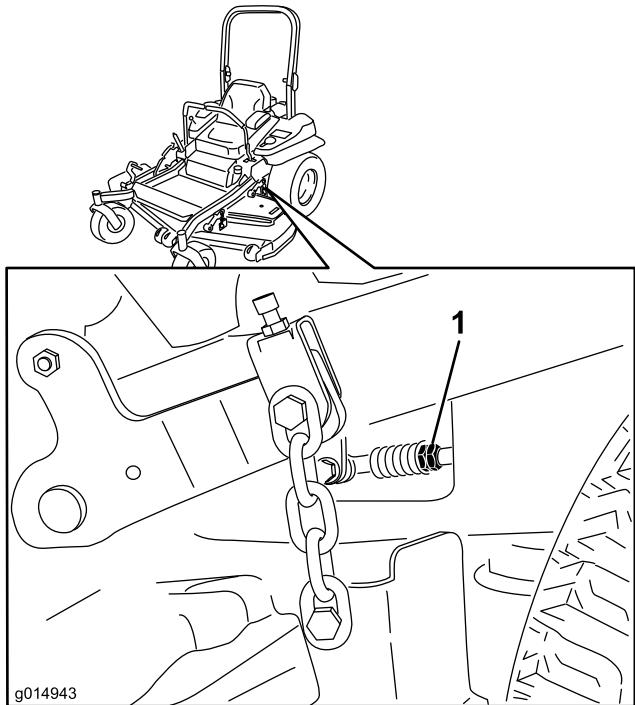

Figure 81
- Bring the motion control levers into the neutral position. Adjust pump control rod lengths by rotating the double nuts on the rod in the appropriate direction until the wheels slightly creep in reverse (Figure 81). Move the motion control levers to the reverse position and while applying slight pressure to the lever allow the reverse indicator springs to bring the levers back to neutral. The wheels must stop turning or slightly creep in reverse.